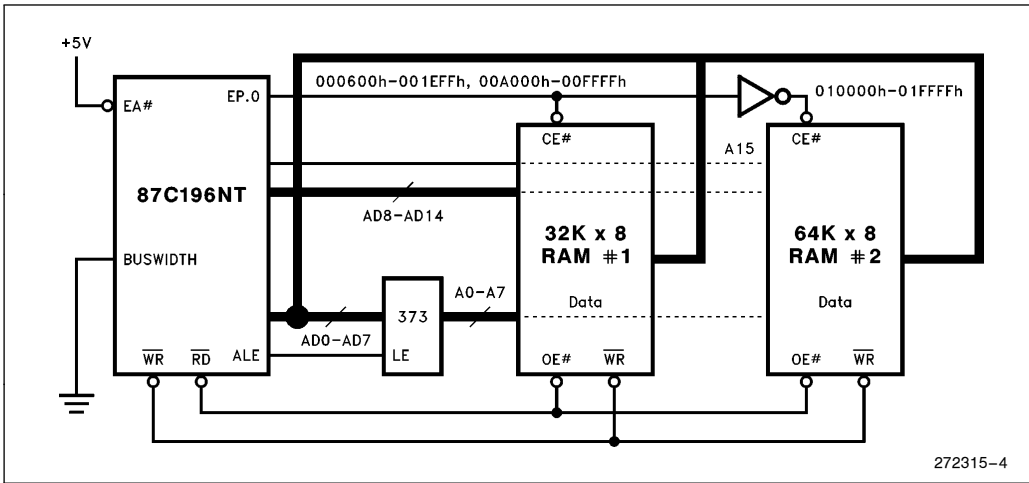
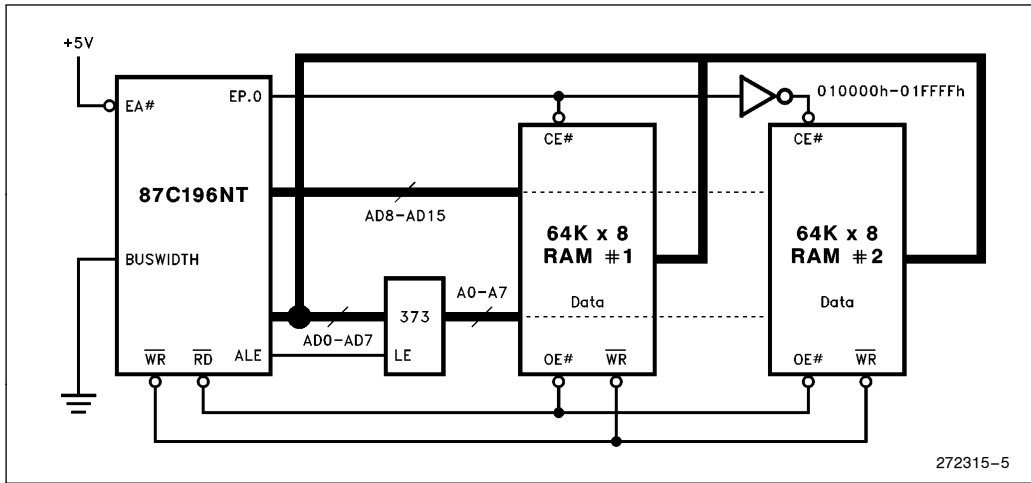

Figure 5-1. 64K Compatible Mode with 96 Kbytes of External Data Space
Figure 5-2. 64K Compatible Mode with 128 Kbytes of External Data
Figure 5-1 shows the 87C196NT running from internal (EP)ROM in 64K compatible mode. External data accesses are allowed using extended addressing instructions. The first 32 Kbyte RAM is mapped to the locations in page 00h that are not mapped for a specific purpose (see general memory map Figure 5-5). The general purpose spaces in page 00h amount to 32 Kbytes of memory. The 64 Kbyte RAM is mapped to page 01h. The 16-bit instructions (LD, ST) access RAM #1 (if the EP_REG was set to 00h) and the extended instructions access both RAMs. The 16-bit instructions can access RAM #2 if the EP_REG is loaded with 01h.
The code below applies to Figure 5-1 above. There are two subroutines (A and B). In subroutine A (see Code 5-4) page 01h is accessed using 16-bit stores. However, first the EP_REG has to be initialized to page 01h. In addition the subroutine has to restore the page value to EP_REG upon exiting the subroutine. So there is some overhead involved with using 16-bit loads/stores in different pages. Although if many data accesses are done in subroutine A then 16-bit loads/stores would be advantageous since they are faster. The extended loads/stores require an extra bus cycle since the internal bus is 16-bits wide.
Since page 00h is free to use (except for SFRs, etc.), this next memory configuration takes advantage of page 00h in 64K compatible mode (see Figure 5-2). The program counter is limited to 64 Kbyte. But, the (EP)ROM is only mapped in page FFh and the 32 Kbyte memory space in page 00h is now free. This allows use of a 64 Kbyte RAM instead of the 32 Kbyte RAM shown in Figure 5-1. Hence, there is a total of 128 Kbytes of external data available to access when using only one EPORT address line.
Given the memory configuration of Figure 5-2 suppose the following instruction is executed (see code 5-7):